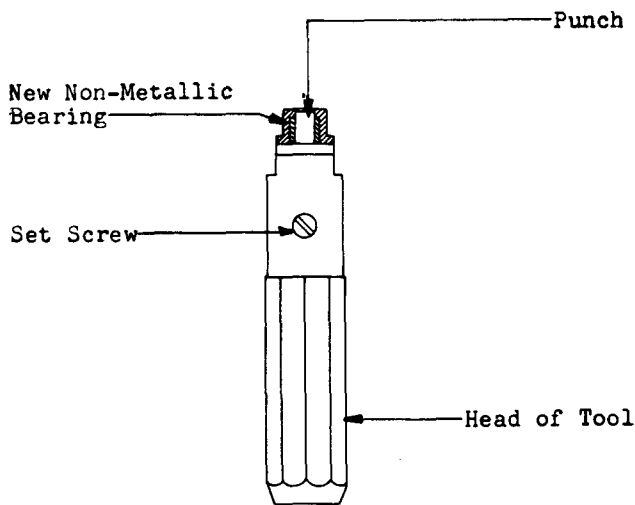

Fig. 18 - Method of Adjusting No. 398B Rivet Heading Punch When Used to Replace Bearings
3.43 Place a new bearing on the No. 398B rivet heading punch, as shown in Fig. 18, and check that the tip of the punch is slightly underflush with the outer surface of the metallic portion of the bearing as indicated. To adjust the punch to this position, unscrew the head and loosen the setscrew with the 3-inch cabinet screwdriver. Then adjust the projection of the punch by turning the threaded portion as required. Tighten the setscrew and remount the head. Do not attempt to replace a bearing with a No. 398B punch improperly adjusted, because damage to the bearing or the coil of the switch may result.